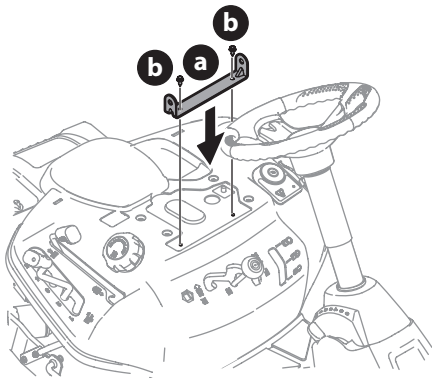

Figure 9
3. Align the seat bracket (a) in place over the holes from where the self-tapping bolts (b) were removed (Figure 9).
4. Using a 1/4" drive ratchet with a 3/8" socket, secure the seat bracket (a) with the self-tapping bolts (b) removed in Step 2 (Figure 9).
NOTE: Make sure that the bolt's shoulder is completely recessed into the seat bracket when securing the lock nut (Figure 9 inset).